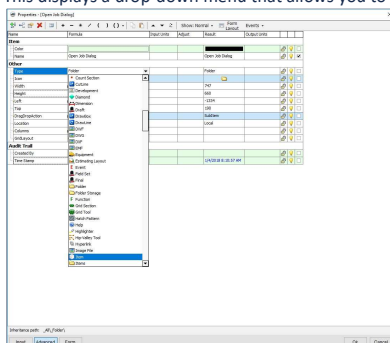

Figure 6
6. This displays a drop-down menu that allows you to select the **Type** (see Figure 6). Select **Item** from the drop-down menu.